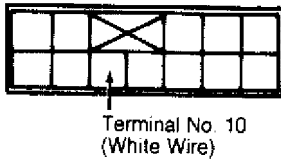

Fig. 2: Identifying Diagnostic Connector Terminal
2) Locate diagnostic connector under left side of instrument panel. Connect jumper wire between diagnostic connector terminal No. 10 (White wire) and ground. See Fig. 2. Start engine and check basic idle speed. See IDLE SPEED SPECIFICATIONS table. If basic idle speed is okay, go to step 5). If basic idle speed is not correct, go to next step.